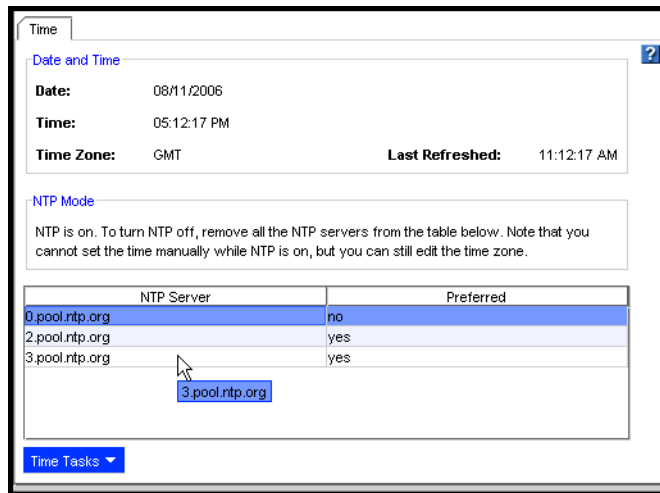

Figure 76. Viewing the List of NTP Servers
4. Click OK. The NTP server is added to the list on the NTP tab, shown in Figure 76.